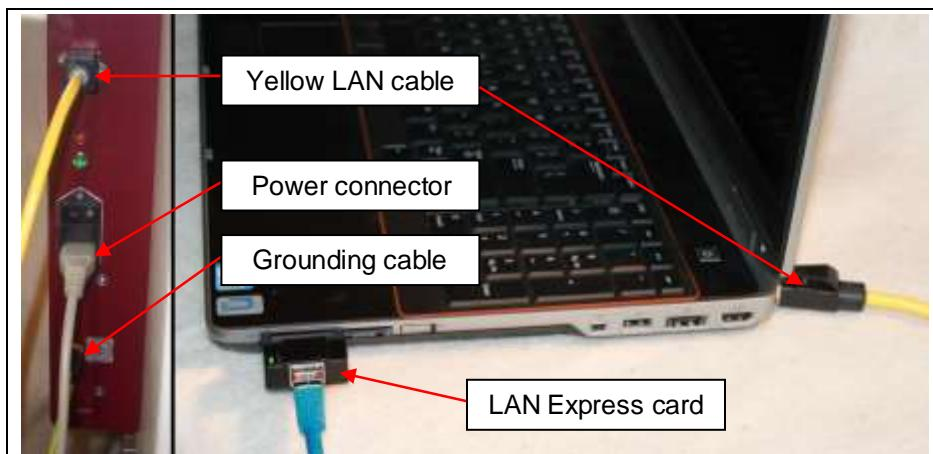

Figure 14: E-Box and Control Server cable connections
- **Connect the yellow LAN cable between E-Box and Controls Server (Figure 14).**
- **Connect the power connector and the grounding cable as seen in Figure 14.**
If you need access to your local network, you can insert the provided LAN express card into the Control Server (Figure 14) and connect it via LAN-connector.